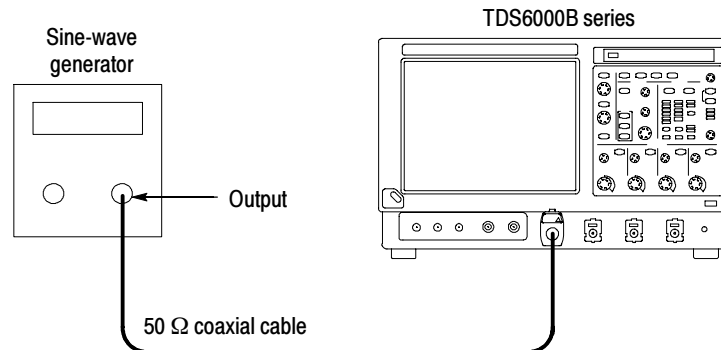

Figure 4-14: Initial test hookup
- b. *Hook up the test-signal source:* Connect, through a 50 Ω precision coaxial cable, the output of the sine wave generator to **CH 1** input through an adapter (see Figure 4-14).